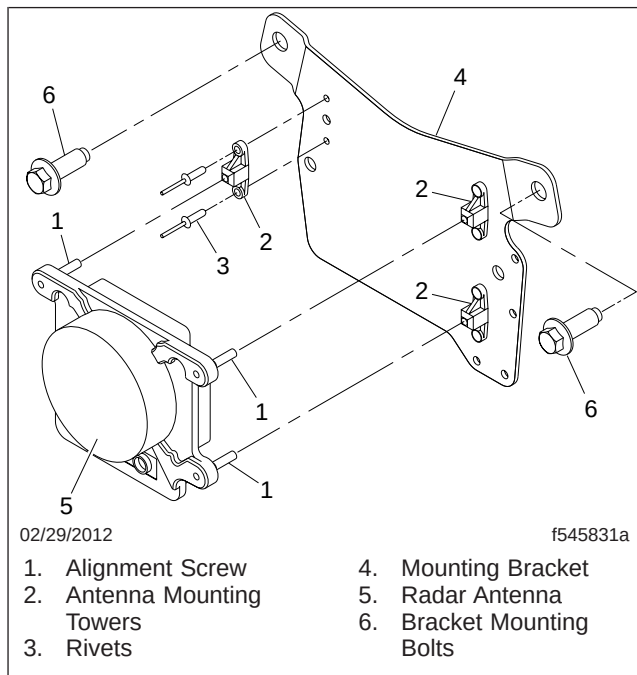

Fig. 1, Radar Antenna Mounting Assembly
2. Remove the two fascia mounting bolts and remove the fascia from in front of the radar antenna. See Fig. 1.